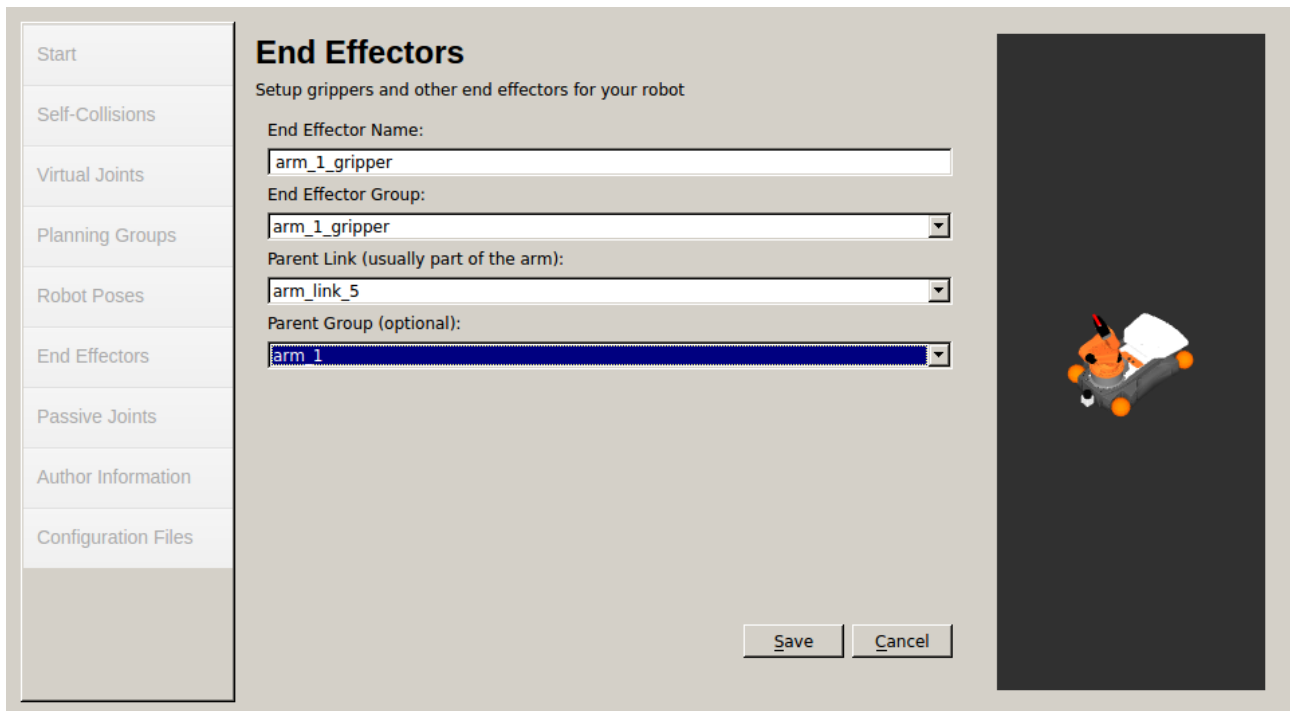

Figure 8: End Effector setup
- Click "Add End Effector" and setup the fields as shown in figure 8.